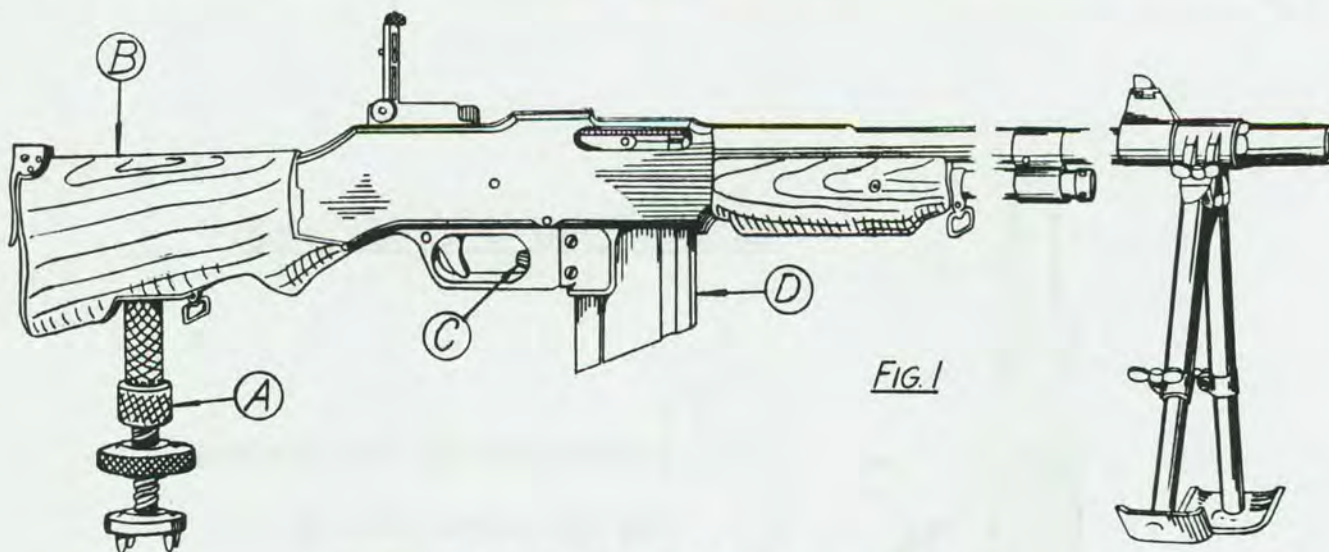

FIG. 1
- 1 PULL THE STOCK REST (A) FROM THE BUSHING IN STOCK (B), FIG. 1. PRESS MAGAZINE RELEASE (C) AND REMOVE MAGAZINE (D)